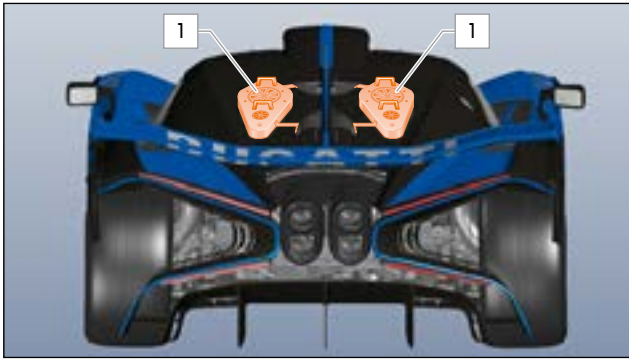

FIG.89 EXTERNAL ENGINE COOLING FANS
- Place the additional fans 1 (» Fig.89) over the engine compartment as soon as the car is stationary, within 10 seconds.